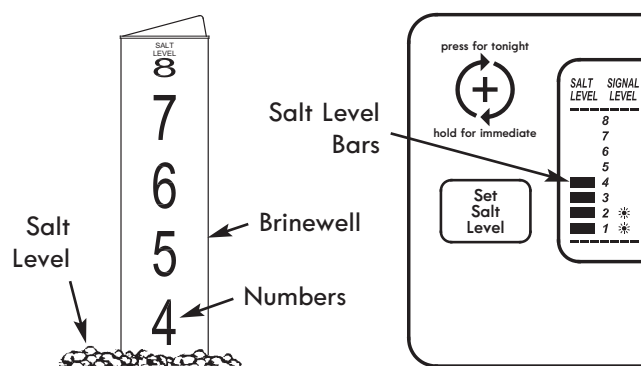

Figure 24
2. The salt level scale, on the brinewell inside the tank, has numbers from 0 to 8 (see Fig. 24). Observe the highest number the leveled salt is at, or closest to.
3. Press the SET SALT LEVEL button as many times as necessary to make the salt level bars in the display (see Fig. 24) match the number on the brinewell. At level 2 or below, the “Low Salt” indicator will flash.